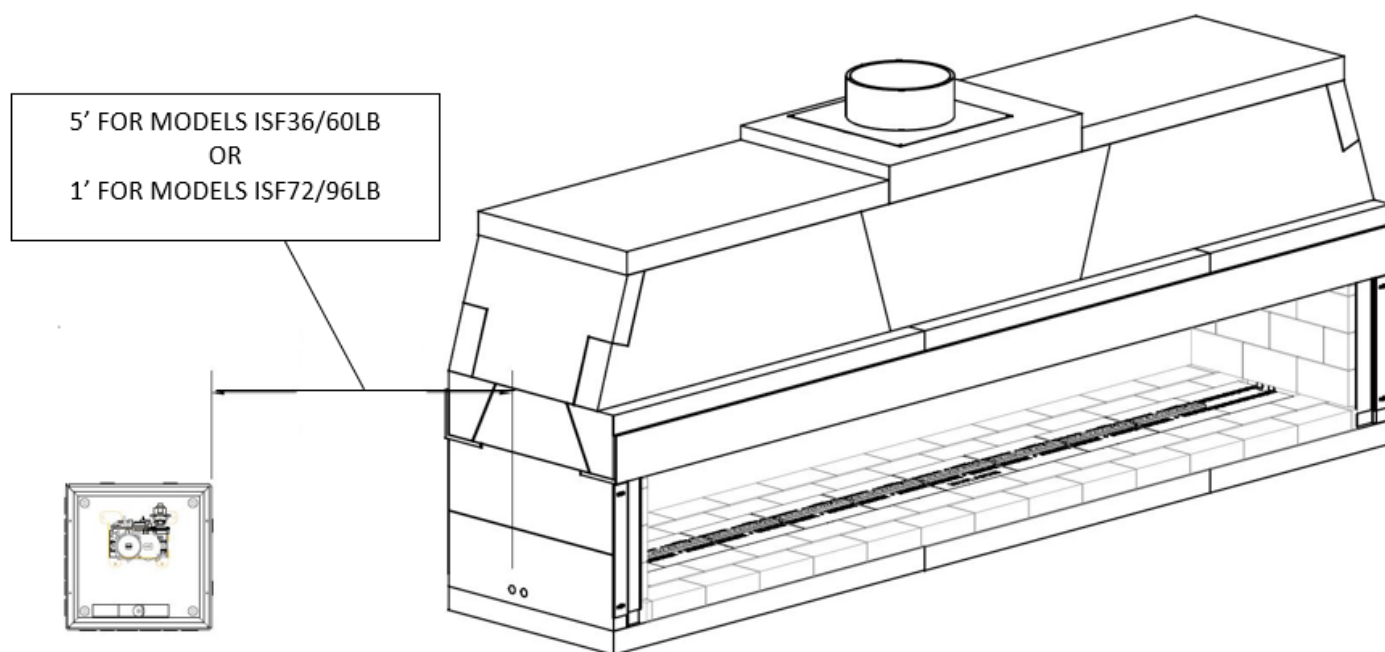

FIGURE 53
- 1) The valve control box comes with an 84" pilot assembly lead; therefore, the box must be mounted within 5' of the fireplace for models ISF36/60LB and within 1' for models ISF72/96LB. **(Figure 53)**